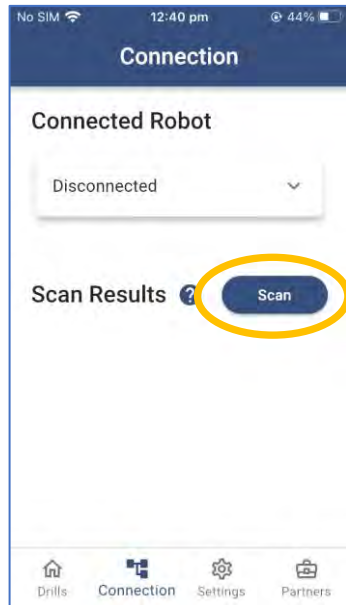

Figure 2-13
4. After pressing the Skip button, you will be presented with the Drills screen (Figure 2-12). Before using a Drill, we must connect our Android/iOS device to the robot. Press the Connection button on the bottom of the Android/iOS Power Pong Robot application (Figure 2-13).
5. Press the Scan button, so that the Power Pong Robot Application can “search” for the robot. It should find the robot called Power Pong robot (Figure 2-13).